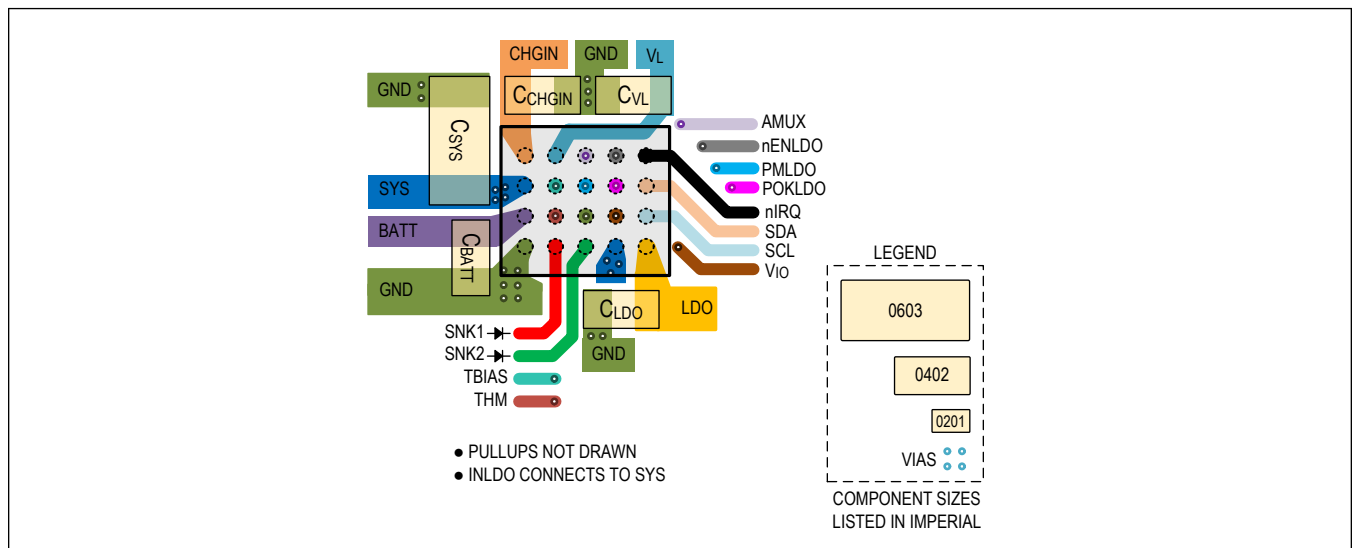

Figure 15. PCB Top-Metal and Component Layout Example
3. If INLDO has a different power source (other than SYS), then a separate INLDO decoupling capacitor (not drawn in Figure 15) is recommended.
Figure 15 shows an example PCB top metal layout with 0.2mm component-to-component spacing.